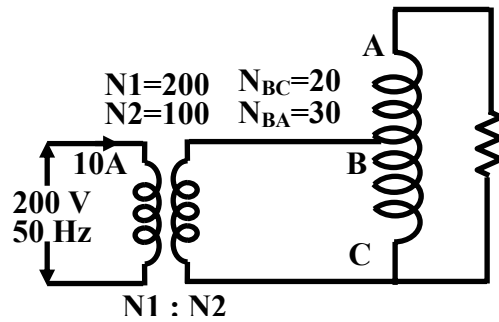

Figure 27.7:
- (A) 2 (B) 0.5 (C) 4 (D) 0.25
3. The two winding transformer and the autotransformer of the circuit shown in Figure 27.7 are *ideal*. The current in the section BC of the autotransformer is
- (A) 28 A from B to C (B) 12 A from C to B